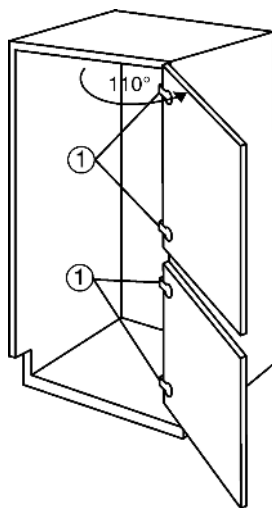

Fig. 2
Use high quality internal hinges *Fig. 2 (1)* to attach the cabinet doors. The hinges should be adjustable to ensure that the doors are exactly perpendicular when closed. The maximum permissible opening angle of the hinges is 110°. When selecting hinges, take into account the projecting length (thickness) of the hinges. There must be a 21-7/16 in. (544.5 mm) gap between the left internal wall of the cabinet and the projection (thickness) of the hinge.